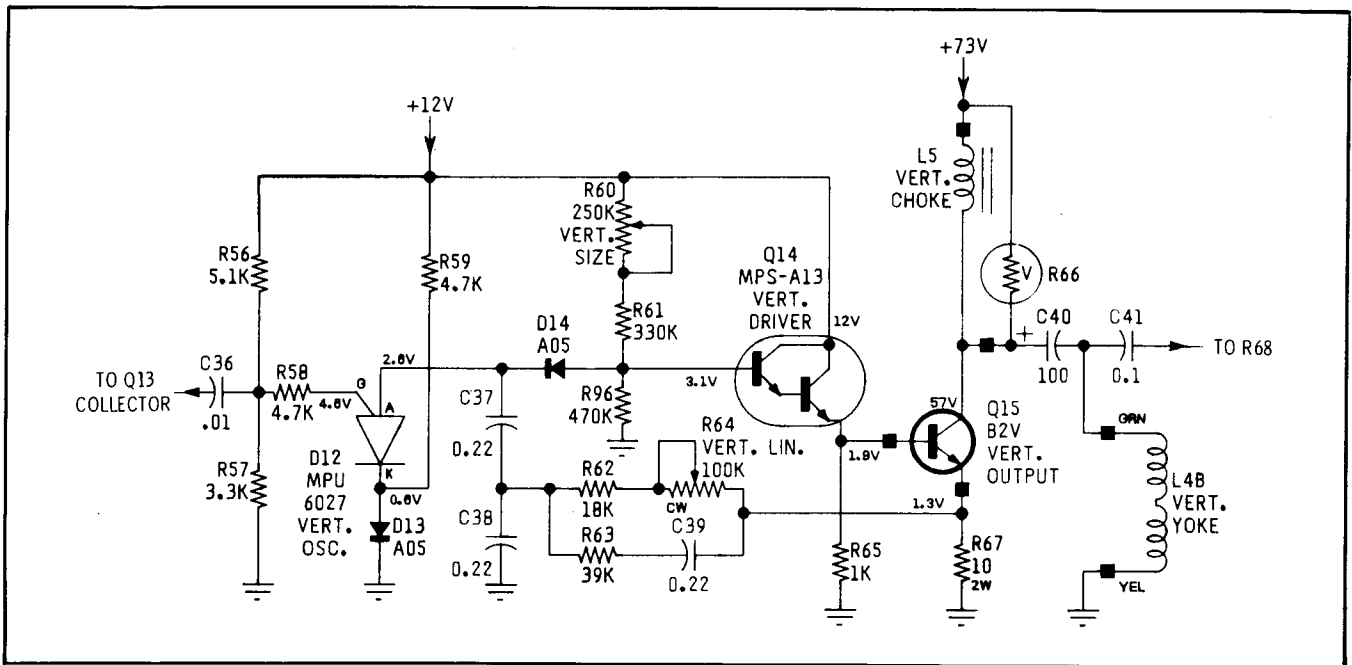

Figure 10 Motorola Monitor Vertical Oscillator Circuit
**Vertical Oscillator and Output (See Figure 10)**